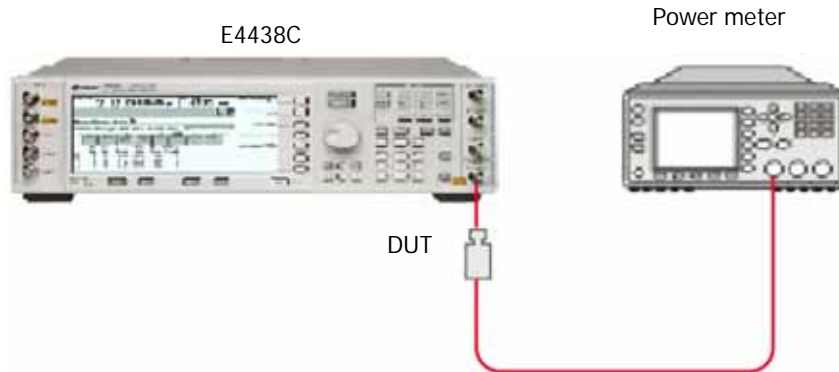

Figure 2-7 Zero set performance test in system level setup
- 4 Connect the N1921/2A to the signal generator as shown in Figure 2-7. Allow the system to warm up for approximately 30 minutes.